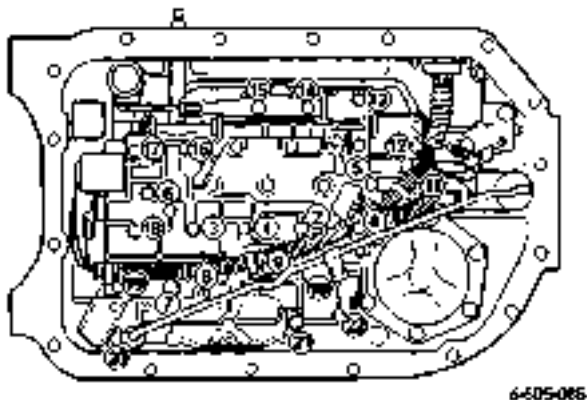

Figure 5-40: Valve Body Bolt Tightening Sequence (in Numerical Order)
7. Tighten valve body bolts to 97 lb-in. (11 N•m) torque. Start at center and work outward in a spiral pattern (Figure 5-40).